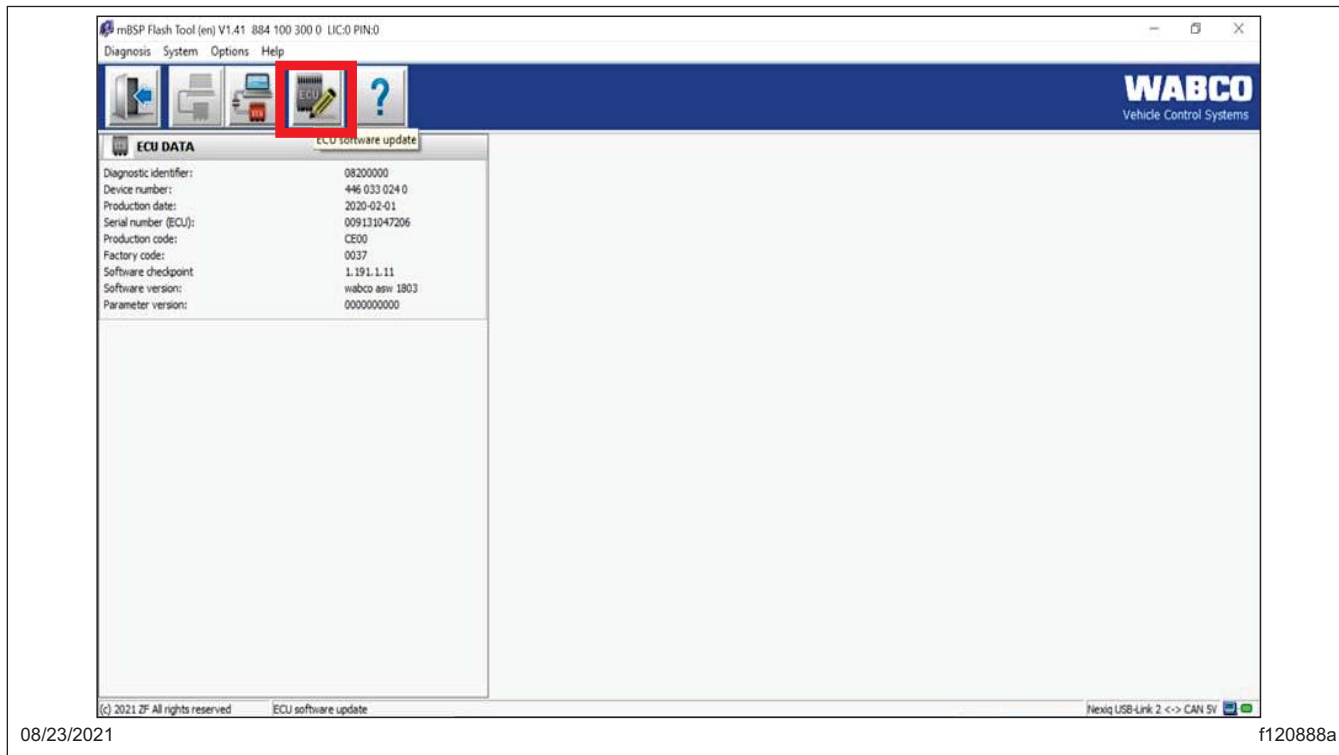

Fig. 7, ECU Software Update
14. Select the 'ECU software update' button to begin the ECU update. See Fig. 7.